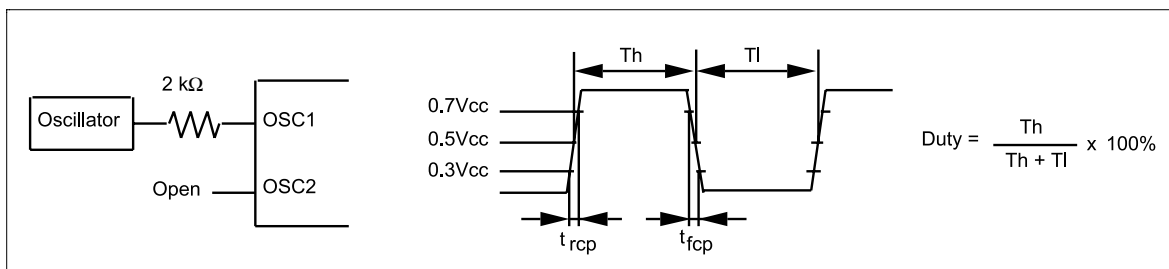

Figure 61 External Clock Supply
- Applies to the external clock input (figure 61).